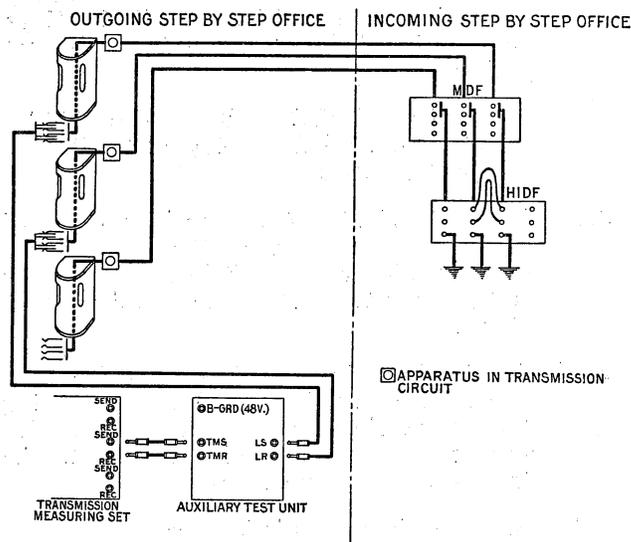

Figure 1
- 2.05 Figure 1 shows schematically the connections for the preliminary test.